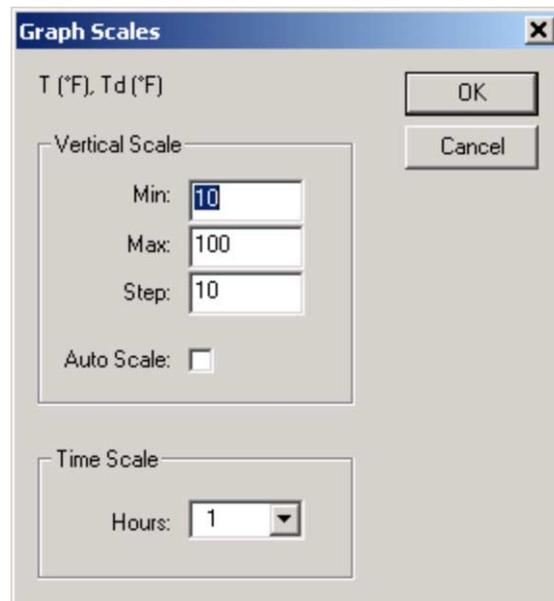

Figure 75 Changing the Scales
3. Change the scales as desired (see Figure 75 on page 106) and click **OK**.